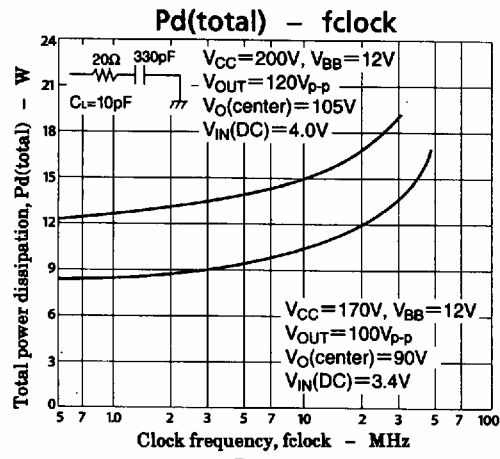

Fig.1
The temperature and the loss of the transistor chips depend on the operating frequency, and their values differ one another. Thermal calculations should be carried out for the largest-loss transistor at the maximum operating frequency of 30MHz (clock). The largest-loss transistor is Tr2 in the internal circuit schematic. It shares about 24% of the total loss shown in the Fig.1. Each transistor's  $T_j$  is calculated by next equation.
As mentioned above, the largest-loss transistor is Tr2, and the value is obtained from Figs. 1 and 2 and the equation (4) ;